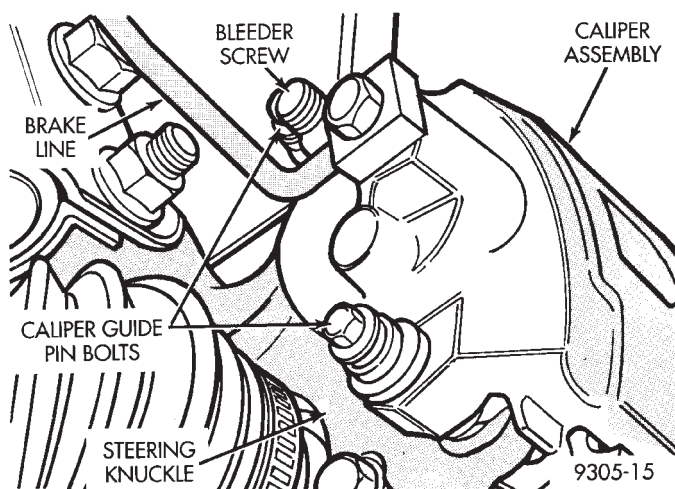

Fig. 2 Disc Brake Caliper Mounting
(1) Raise vehicle on jackstands or centered on a frame contact type hoist. See Hoisting in the Lubrication and Maintenance section of this manual, for the required lifting procedure to be used for this vehicle.
(2) Remove the front wheel and tire assembly from the vehicle.
(3) Remove the front caliper assembly from the front steering knuckle assembly (Fig. 2). Refer to Front Disc Brake Service in the Brake Section of this service manual for caliper removal procedure.